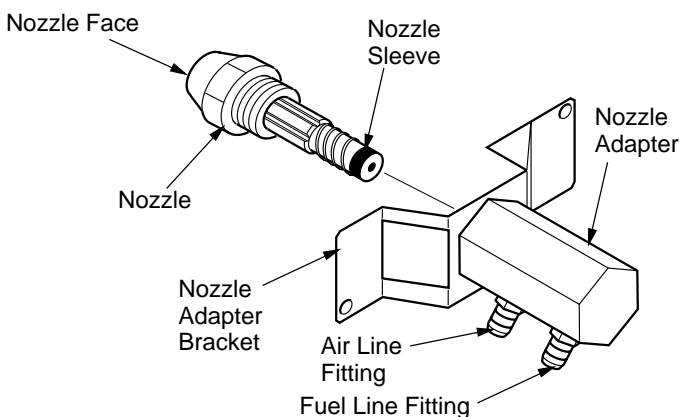

Figure 26 - Nozzle and Nozzle Adapter
5. Carefully remove nozzle from nozzle adapter using 5/8" socket wrench (see Figure 26).